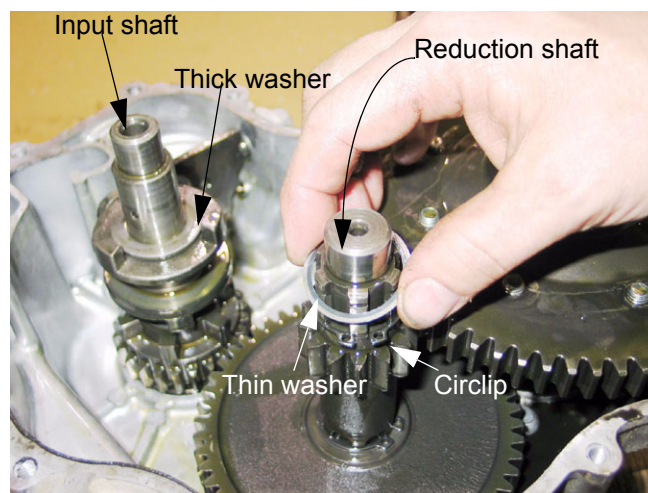

Figure 9.36
- 9.36. Remove the washers that are behind the sprockets on the input shaft and reduction shaft. See Figure 9.36.